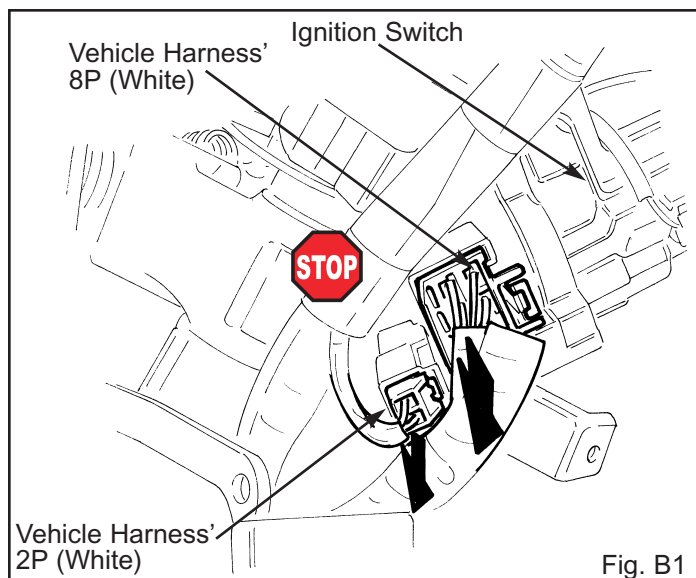

Fig. B1
1. Locate and disconnect the white 8P and white 2P connectors from the ignition switch. (Fig. B1)